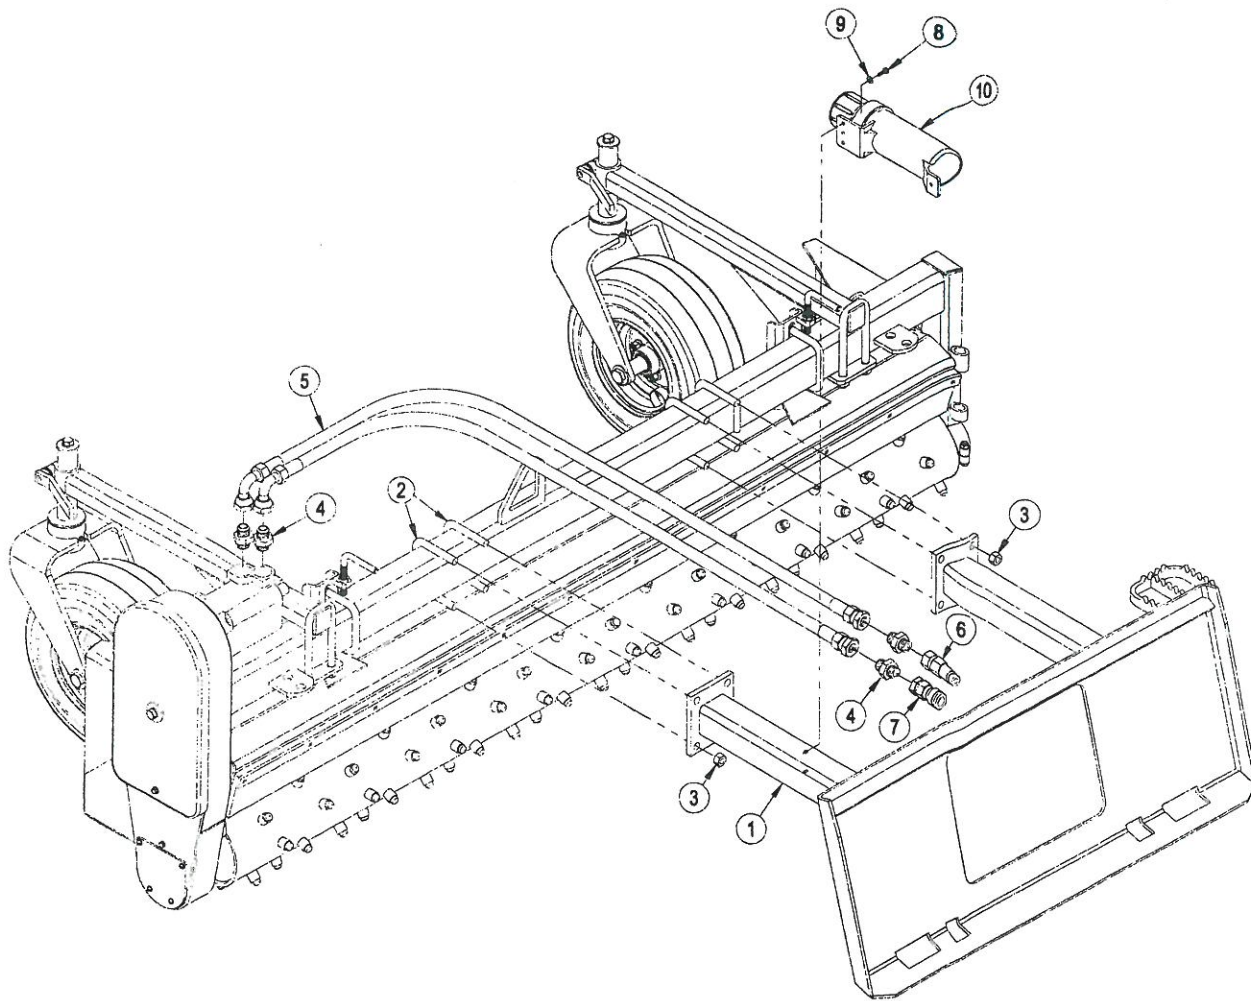

Figure 10. Straight Model Assembly
STRAIGHT MODEL ASSEMBLY PROCEDURE (See Figure 10 & Figure 14)
2. Attach the two gauge wheel assemblies to main frame using two 5/8" U-bolts and locking nuts as shown in **Figure 10 (page 28)** and **Figure 14 (page 38)**.